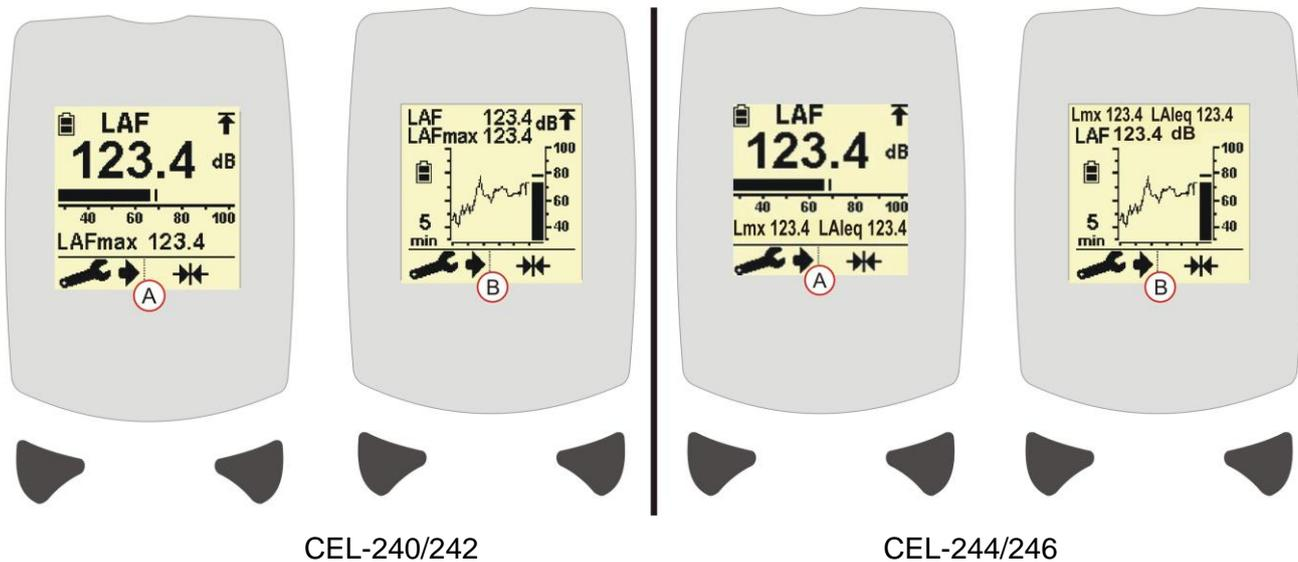

Figure 4 CEL-200 Series Bargraph and Time History Screens
4. A Bargraph (Refer to Figure 4 [A]) or Time History (Refer to Figure 4 [B]) will be displayed. Refer to INSTRUMENT SETTINGS to change the Time and Frequency Weightings, or to change the type of display.
The Main Display can be toggled between Bargraph and Time History (Refer to Figure 4 (A) and (B) respectively) by pressing the (B) key.